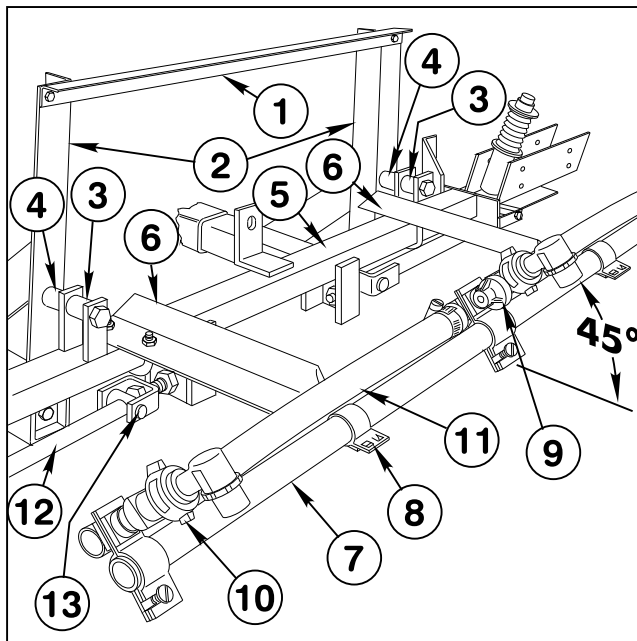

FIG. 6
3. Position the Spacer Tubes between the Boom Mount uprights and the lugs on the Main Frame Tube. Use two 1/2" x 4" hex hd cap screws and lock nuts to secure the Main Frame Tube to the uprights. See FIG. 6.
5. Position the two Center Boom Angles on the Main Frame Tube as shown in FIG. 6 and secure them to the Frame Tube with 2 square "U"-bolts, flat washers, and lock nuts.
7. Loosely attach the Triple Barb Nozzle Assembly in the approximate center of the Center Boom Pipe. For the most uniform spray coverage, position all Nozzle Assemblies at a 45° angle as shown in FIG. 6. Tighten clamp screw to secure the Nozzle to the Boom Pipe.
Frame tube with two (2) 1/2" x 2" clevis pins and two (2) 1/8" x 1" cotter pins. See FIG. 6.
13. Adjust the Booms to a level position by adjusting the jam nuts on the adjustable clevis assemblies (see FIG. 6) to the desired position, then tighten the jam nuts against the Main Frame plate.